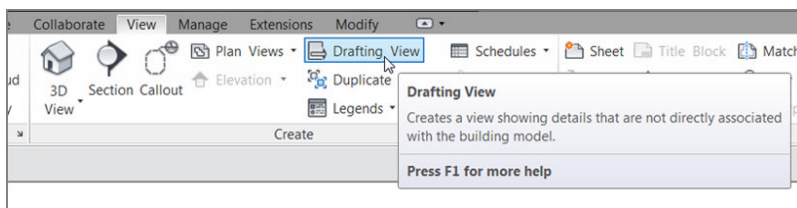

FIGURE 12.50: Click the Drafting View button on the View tab.
1. On the View tab, click the Drafting View button, as shown in Figure 12.50.